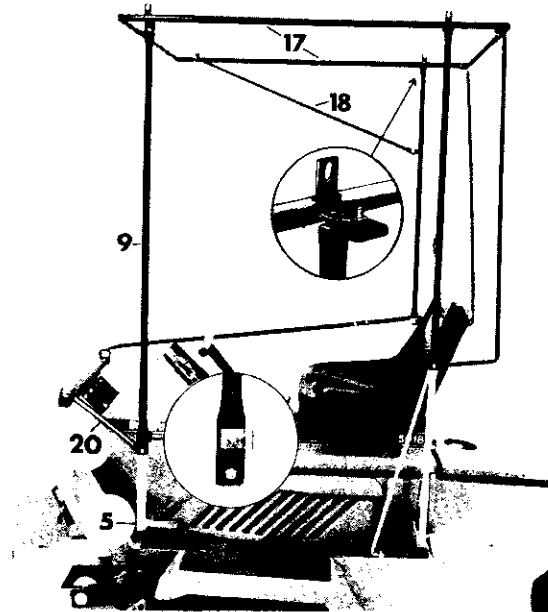

FIGURE 7
STEP 7; SEE FIGURE 7:
- A. Insert a bolt through the least bent end of the FRONT BRACE (20). Insert the bolt through the FRONT FOOT (5) and then the lower end of the FRONT POST (9). Add a nut.
- D. Place the TOP FRAME (17) onto the bent ends of the posts. Insert 5 bolts upwards add nuts do not tighten yet.
- E. Use two bolts and nuts to attach the UPPER BRACE (18) to the welded tab on the right rear post and the tab on the top frame.